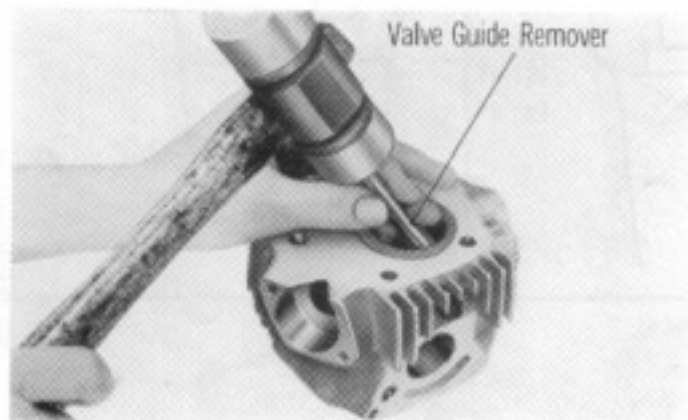

Fig. 23
- a. Remove the valve guide from the cylinder head using the valve guide remover (Tool No. 07047-25901) (Fig. 23).